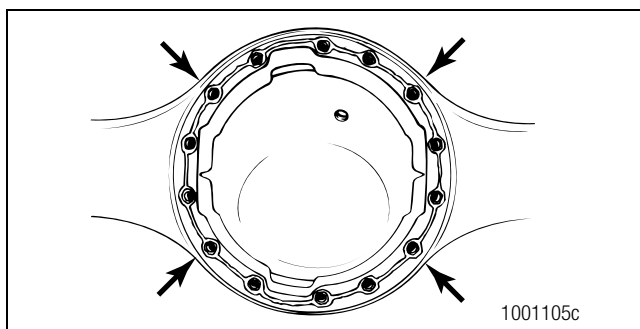

Figure 5.78
7. Install nuts and washers or capscrews and washers, if equipped, into the four corner locations around the carrier and axle housing. Hand-tighten the fasteners. Figure 5.78.
8. Carefully push the carrier into position. Tighten the four fasteners two or three turns each in a pattern opposite each other. Figure 5.78.